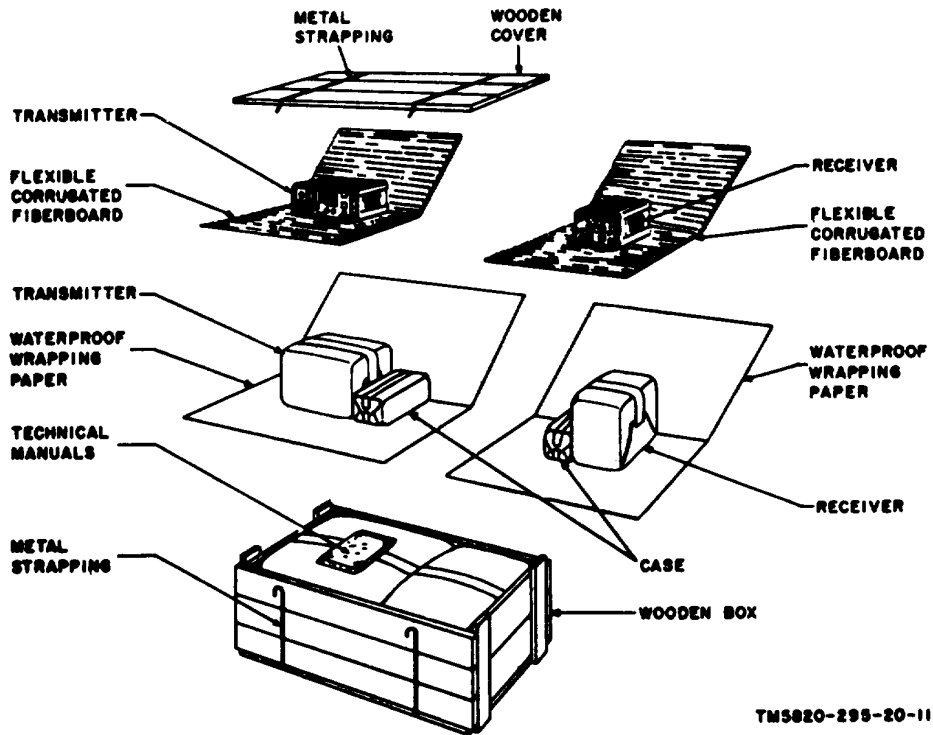

Figure 11. Transmitter, receiver, and literature, repackaging diagram.
- (1) *Technical manual* (fig. 11). Package each technical manual within a close-fitting bag fabricated of waterproof wrapping paper. Seal the bag securely with water-proof, pressure-sensitive tape.
- (3) *Radio Receiver R-392/URR* (fig. 11). Place the running spares for the receiver within Case CY-1298/URR. Close and secure the case lid with its fastening devices. Wrap the case with corrugated fiberboard. Secure the wrap with pressure-sensitive tape. Wrap the receiver with corrugated fiberboard. Secure the wrap with pressure-sensitive tape. Place the wrapped case and wrapped receiver together and wrap with corrugated fiberboard and overwrap with waterproof wrapping paper. Secure the overwrap with waterproof, pressure-sensitive tape.